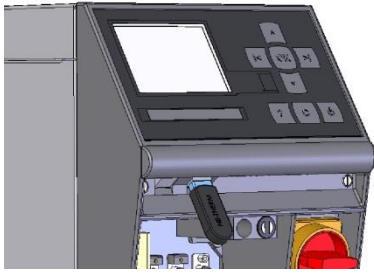

Fig. 64: Connect USB data carrier
2. Connect USB data carrier (Fig. 64).